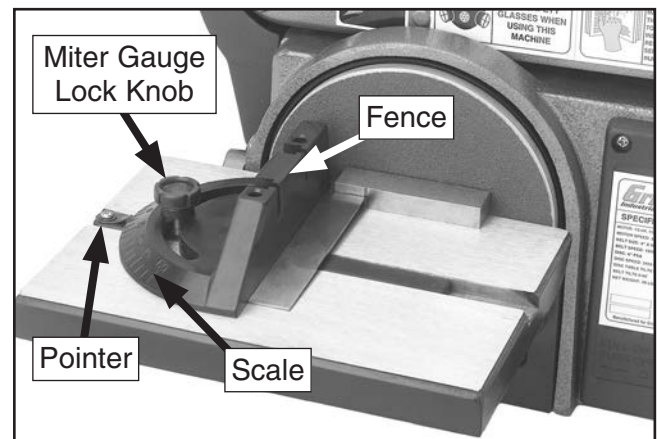

Figure 17. Setting miter gauge angle.
1. Place miter gauge in slot in work table, then loosen miter gauge lock knob shown in **Figure 17**.